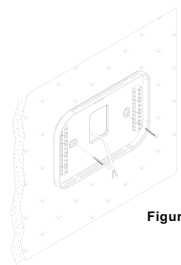

Figure 1
5. Mount the base to the wall using the two #6 x 1/2" self-tapping screws supplied - See Figure 1.